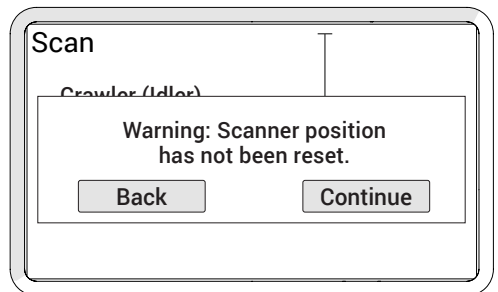

Fig. 169 - Exit warning
- 11 Exit button Pressing **Exit** stops all scanning motion. When the scanner is not in the **A** position, a warning appears (*Fig. 169*). The warning alerts that the **A** position of the scanner will be changed to the current position.